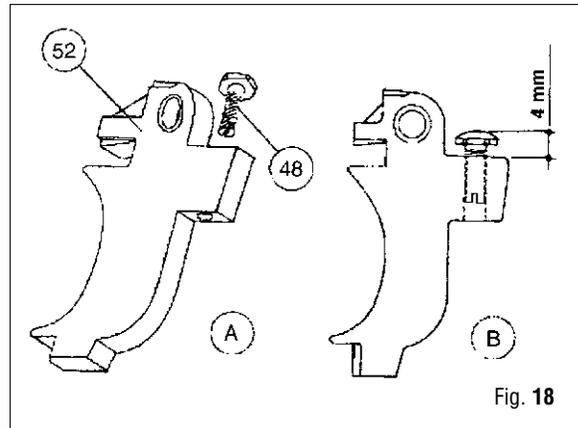

Fig. 18
33. Insert the rounded end of the connecting plunger (45) into the bushing (47) using a special tool A-13 ( $\varnothing$  1.5 mm) or needle nose pliers.
34. Place o-ring (60) into groove of safety bar (59).
36. Align the safety bar retainer (58) and press it into the safety bar until the latch engages.
37. Install trigger adjustment screw (48) into trigger body (52) (Fig. 18-A). With a 6 mm wrench, tighten trigger adjustment screw (48) into trigger body (52), until it protrudes approximately 4 mm. (Fig. 18-B).
38. Align the hole in the trigger with the holes in the handle (41) and install trigger pin (53).
39. Position the grip (61) on the handle (41) and install grip pin (62), from the power adjustment lever side.
42. Open the jaws and remove barrel (26).
43. With a rotating motion, install tank (25) using jaws (A-3) if necessary.
44. Fill the barrel (26) with oil according to the quantities shown in the table below.